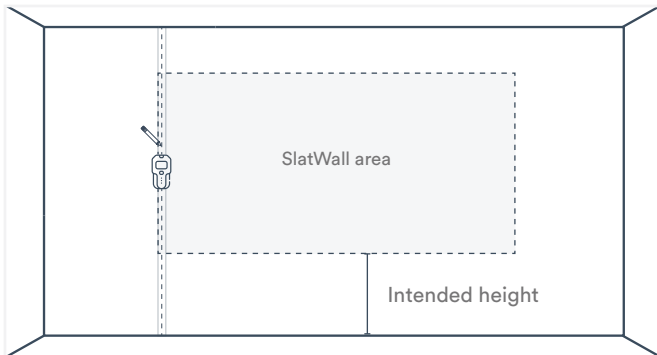

Fig. 22
1. Locate and mark the area in which the SlatWall panels will be installed. Use a stud finder to find the first stud which will serve as the edge of your installation area (Fig. 22).